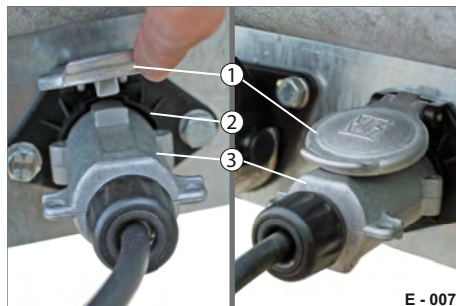

Fig. 8 Plug, parked
- ▶ Open the lid (Fig. 8/1).
- ▶ Pull the plug (Fig. 8/3) out of the parking socket (Fig. 8/2) - do not pull on the cable.